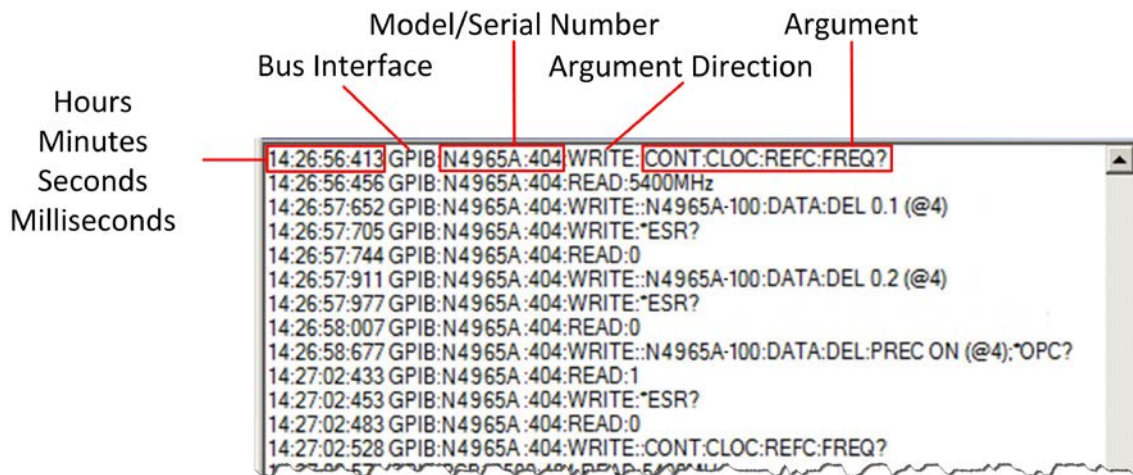

Figure 112. Command viewer
3. Click on the start button to begin monitoring commands. Figure 112 is an example of a Command Viewer screen showing commands.